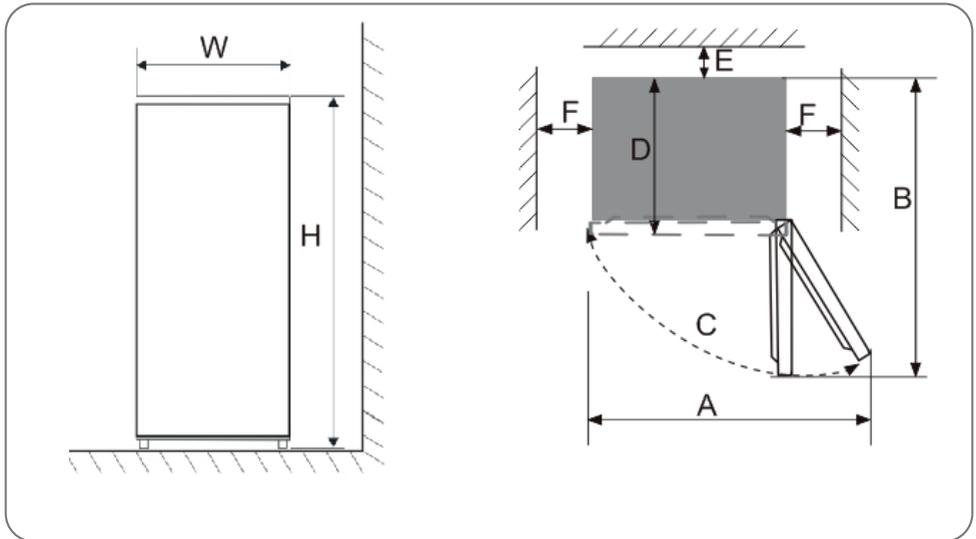

Fig. 5.1
**WARNING:** Do not install the appliance too close to the wall, to avoid noisy operation or blackening of the surfaces; follow the guidelines in (Fig.5.1).
The appliance is touching a wall.	Move the appliance away from the wall and follow the indications given in (Fig.5.1).
Insufficient ventilation clearance.	Check that there is sufficient ventilation clearance around the appliance, following the instructions shown in (Fig.5.1).